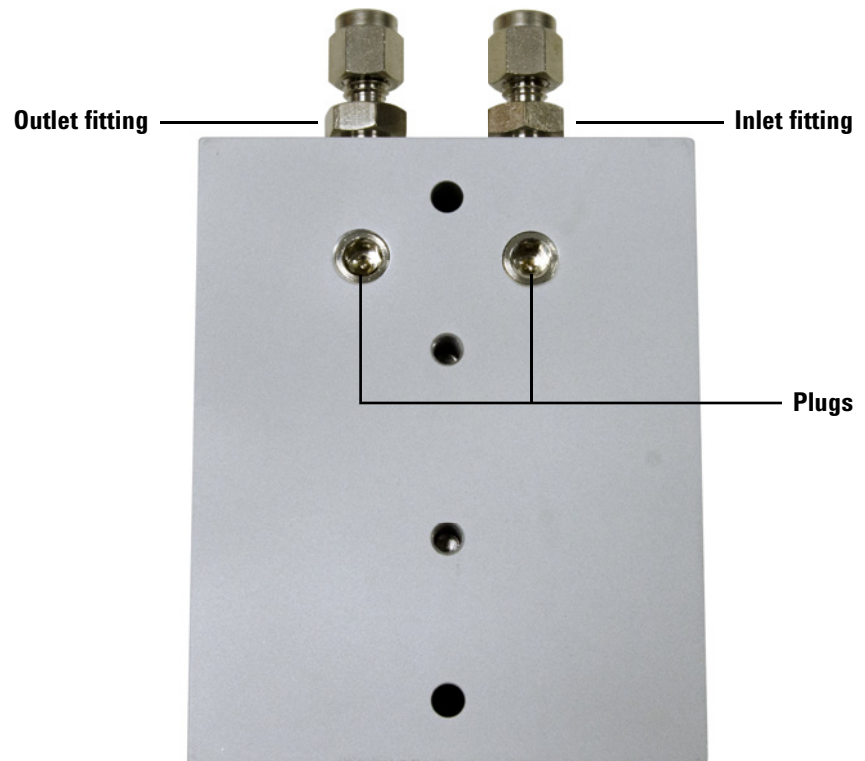

Figure 6 Plugs and inlet/outlet fittings on the connecting unit
- a Using a 5-mm hex wrench, remove the two plugs on the underside of the connecting unit (Figure 6).
- b Using a 1/2-inch wrench, remove the inlet and outlet fittings on the end of the connecting unit (Figure 6).